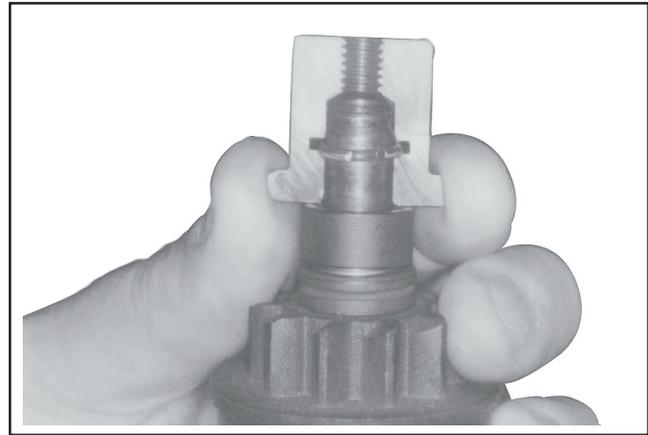

Figure 7-13. Assembling Inner Half of Tool Around The Armature Shaft and Retaining Ring.
3. Holding the spring retainer in the retracted position, assemble the inner halves of the removal tool around the armature shaft with the retaining ring in the inner groove (see Figure 7-13). Slide the collar over the inner halves to hold them in position.